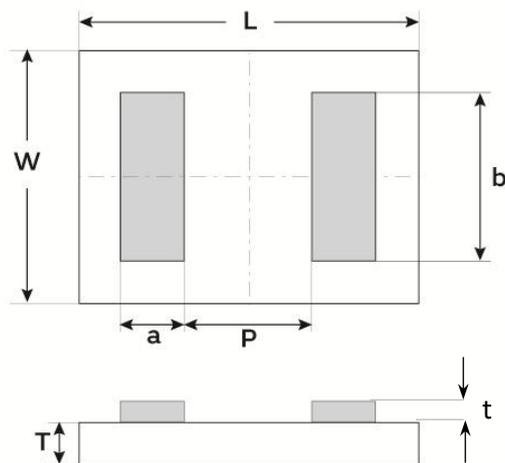

Figure 9 - Package outline drawing
- (1) Other Film Frame Carrier are possible on request
- (2) SAC = ENIG (0.1µm Au / 5µm Ni) + SAC305 type 6 or ENIG 0.1µm Au / 5µm Ni
- (3) Missing capacitors can reach 0.5%
- (4) Refer to Figure 9
- (5) For all demands including Mass Production